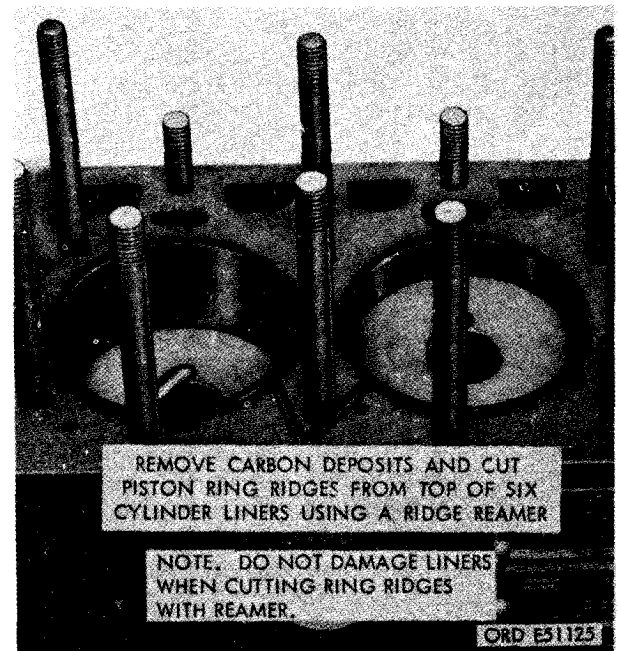

FIGURE 283. REMOVING CARBON DEPOSITS AND CUTTING PISTON RING RIDGES FROM TOP OF CYLINDER LINERS.
- (1) Remove carbon deposits and ridge ream cylinders as shown in figure 283.